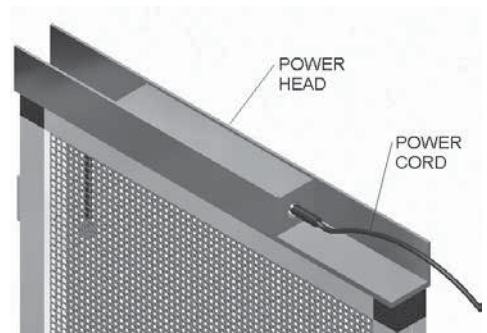

Fig. 2 Power Cord
4. Slide the PAC Panel into the 1" Inch track and plug the power cord into the power head. (Fig. 2)